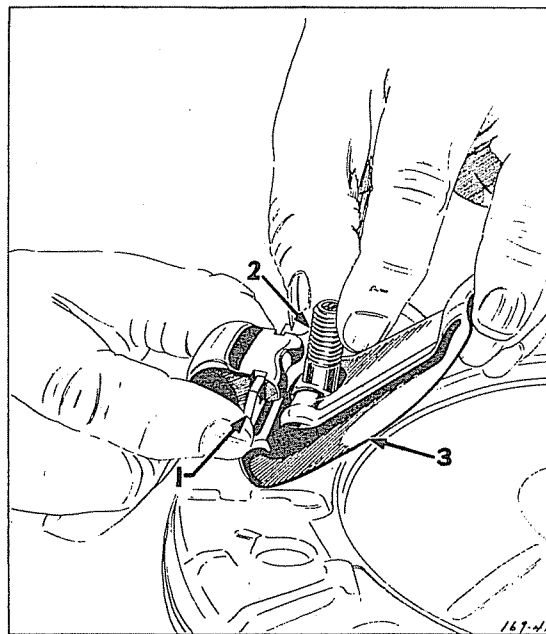

Fig. 6—Removing Strut.
Grasp the lever and eye bolt between the thumb and fingers as shown in Figure 6, so that the slot side of the lever and upper end of the eye bolt are as close together as possible. Be sure to keep the eye bolt pin seated in its socket in the lever. The strut (1) Figure 6, can then be lifted over the ridge on the end of the lever, making it possible to lift the lever and eye bolt off the pressure plate. It is advisable to replace parts which are worn.